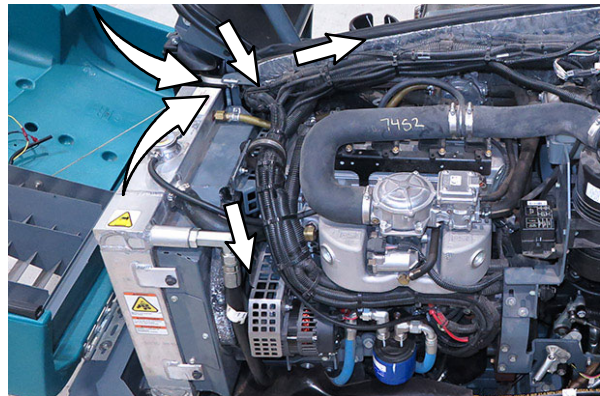

FIG. 13
22.Route the blue spotlight harness (14) along the main wire harness and into the front of the engine compartment. (Fig. 13)